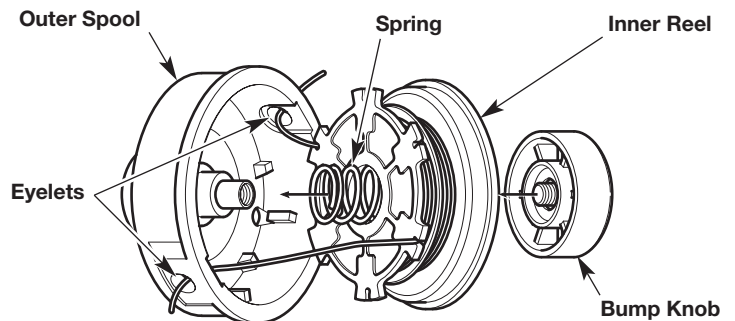

Fig. 24
1. Pass the two line ends through the eyelets in the outer spool. Place the spring inside the inner reel. Insert the inner reel into the outer spool. Push the inner reel and outer spool together (Fig. 24).